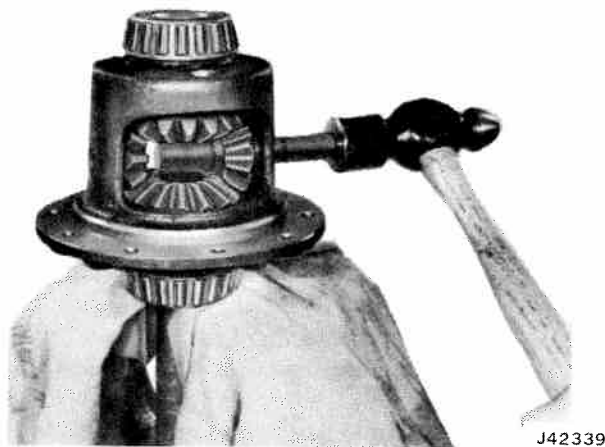

Fig. 10-51 Installing Cross Pin
(17) Remove forcing screw, rotating tool, and step plate.
(18) Prelubricate cross pin with specified lubricant. Assemble cross pin into case. Use a hammer as shown. Be sure snap ring grooves of the cross pin are exposed to allow assembly of snap rings (fig. 10-51).
(19) Assemble snap rings.